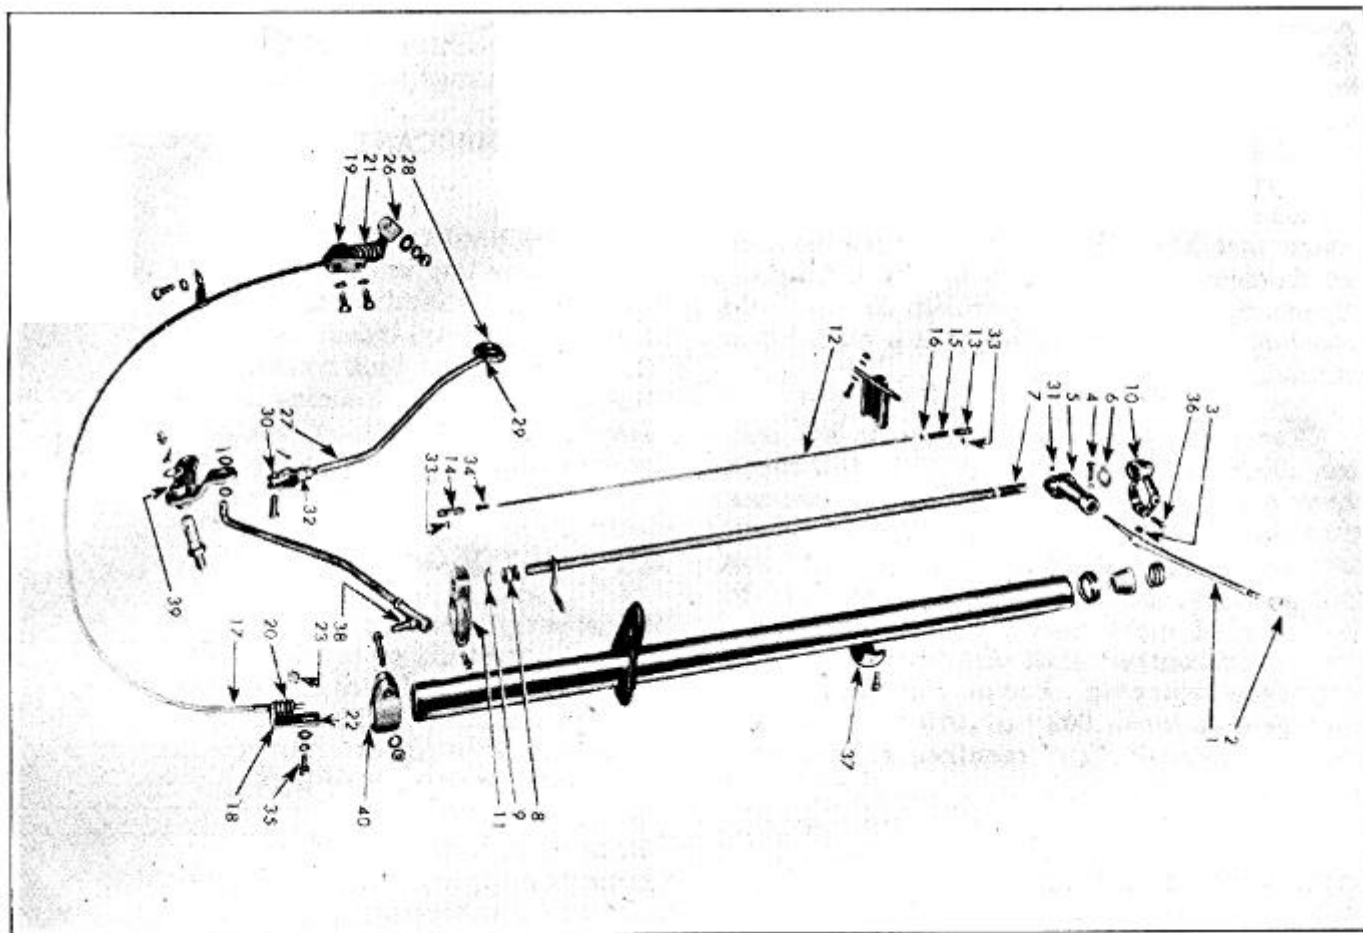

FIGURE 29
- A. Place "Gear Shift" Control Lever, Figure 29 in the extreme upper position.